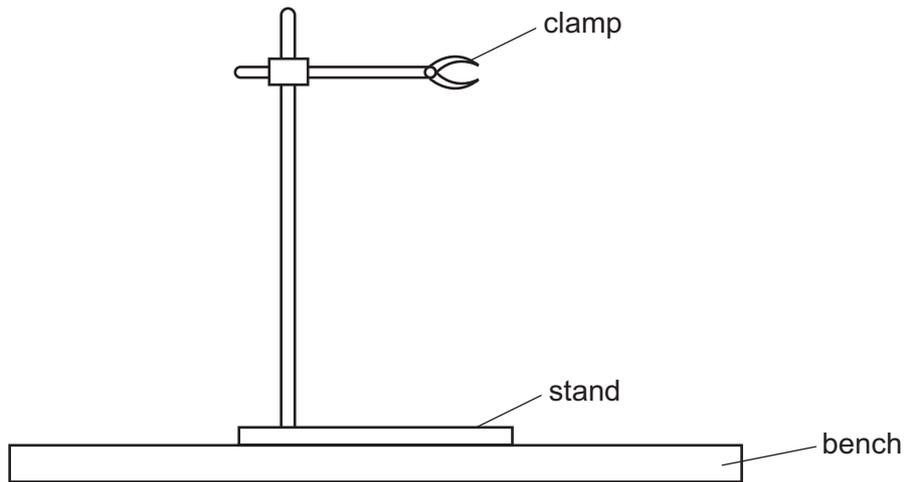

Fig. 6.1
- (ii) clamp, stand and boss set up as shown in Fig. 6.1. See note 1.